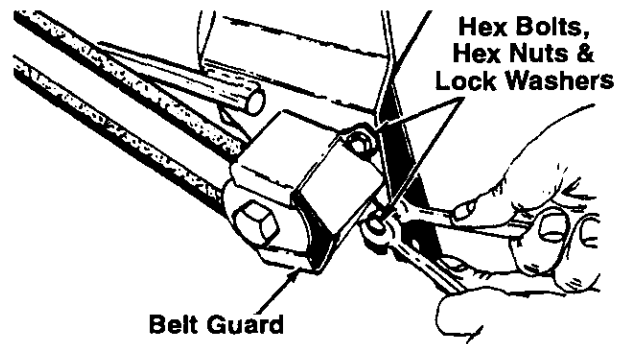

Figure 12
- Remove the belt guard at the spindle assembly by removing two hex bolts, lock washers and hex nuts. See Figure 12.